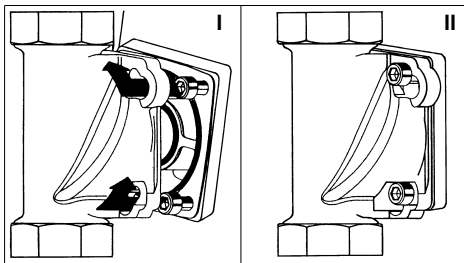

Fig. 6: Rotary flange fitting with bayonet
- Place on the rotary flange fitting so that the screw heads project through the bayonet holes (see fig. 6 I).
- Fully tighten the four M6×130 hexagon socket head screws (see fig. 6 II).
- Position the water softening system on the 'G'-labelled flange of the bypass valve so that the screw heads project through the bayonet holes (see fig. 6 I).